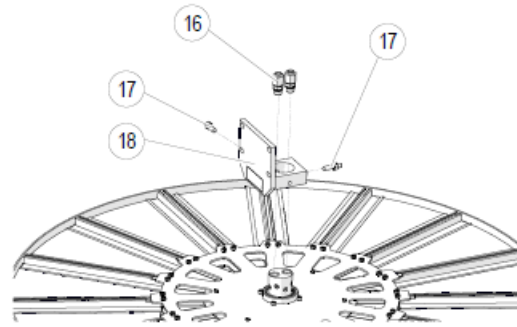

Fig. 6: Removing the Hydraulic Screw Fittings and Threaded Pins
3. Install and stick the flange, hydraulic screw fittings and threaded pin (see Fig. 6).